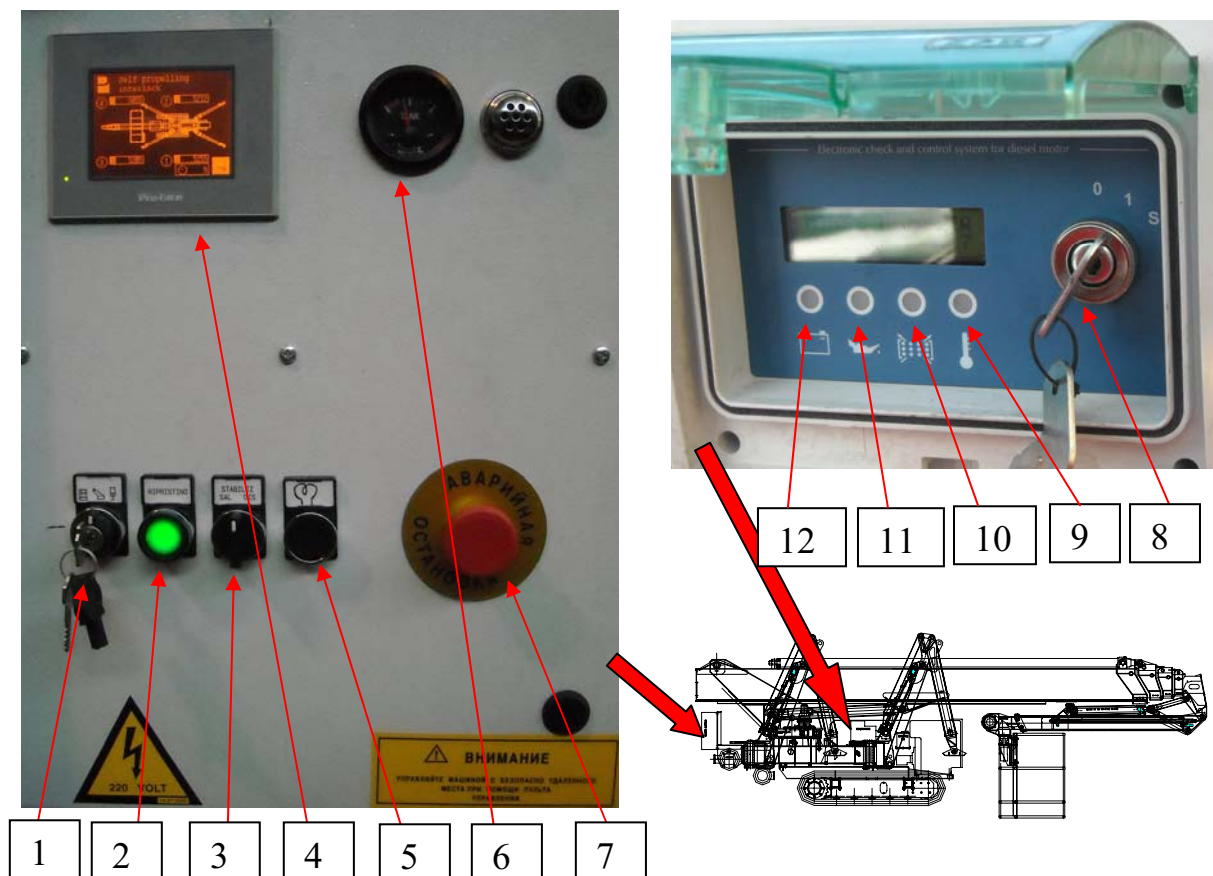
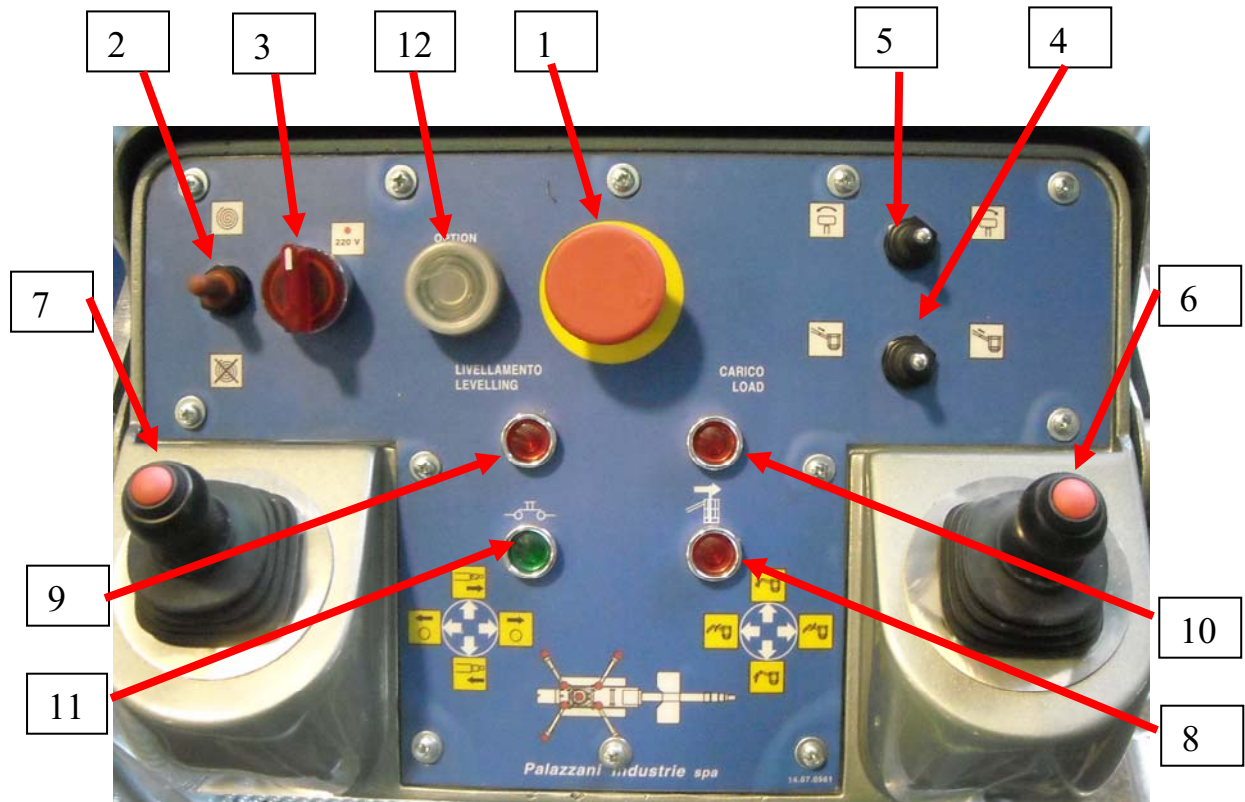

Fig. 3.2
Fig. 3.7
- turn the selecting key of the ground control panel on the "stabilizing-legs" symbol (part 6 of Fig. 3.2)
- on main control desk (Fig. 3.2) rotate the key (item 8) on pos. 1 (oil and el. tension warning lights)
- it is possible to start engine also from control panel on cage_by turning the key switch 2 of Fig. 3.7 if the stabilisers are on the ground and the controls selected on the above mentioned panel (key 1 in fig. 3.2 selected on cage symbol).